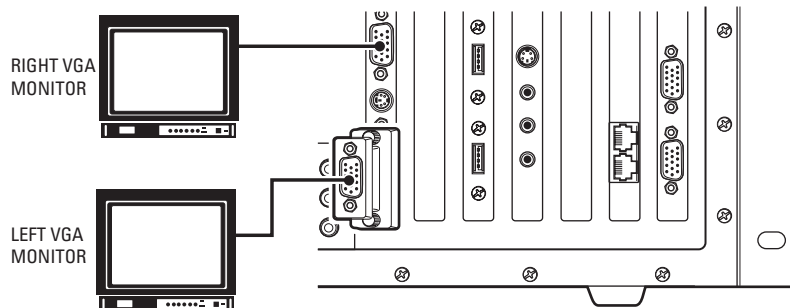

Figure 3. How to Connect Monitors to a VMX300(-E) Workstation
- **Dual-monitor systems:** Connect the left monitor to the bottom input and the right monitor to the top input (refer to Figure 3).